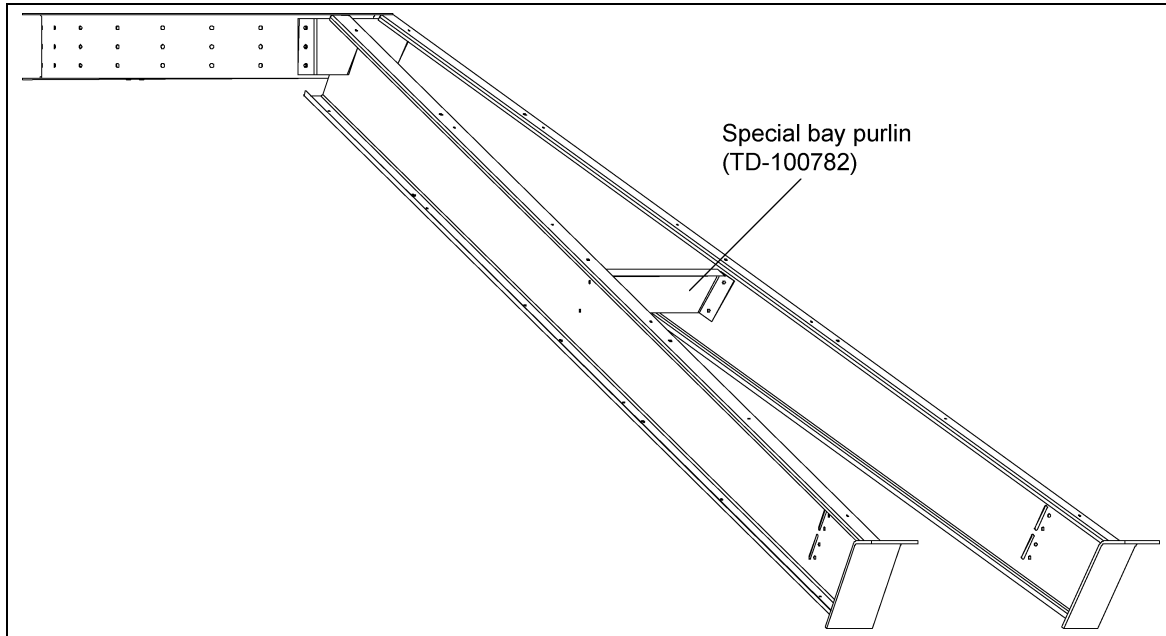

Figure 8C
Where two (2) rafters face the same direction use 5/16" x 3/4" bin bolts and nuts with the three (3) bent edges facing toward the sidewall, the longest edge on top. (See Figure 8C.)